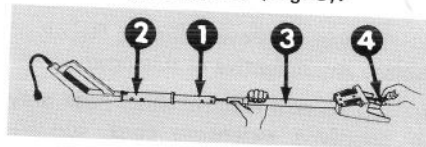

Figure 3
4. Lay handle assembly onto flat surface. Slide center handle grip off lower handle and onto upper handle (Fig. 3).
5. Align upper and lower handles. Hold handle connector with one hand and slide lower handle into mounting position in upper handle with other hand (Fig. 3).